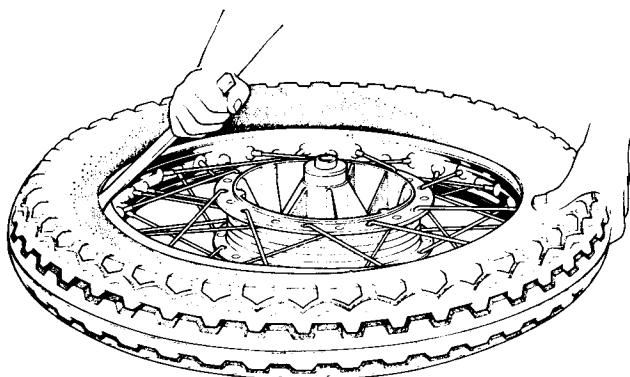

Fig. H18 Levering close to valve whilst pressing opposite bead down into rim
- 6 Insert the first lever between the tire valve and rim at the valve position, press the opposite side of the tire down into the rim well and apply leverage (see *Fig. H18*).
- 7 Insert the first lever between the tire valve and rim at the valve position, press the opposite side of the tire down into the rim well and apply leverage (see Fig. H18).